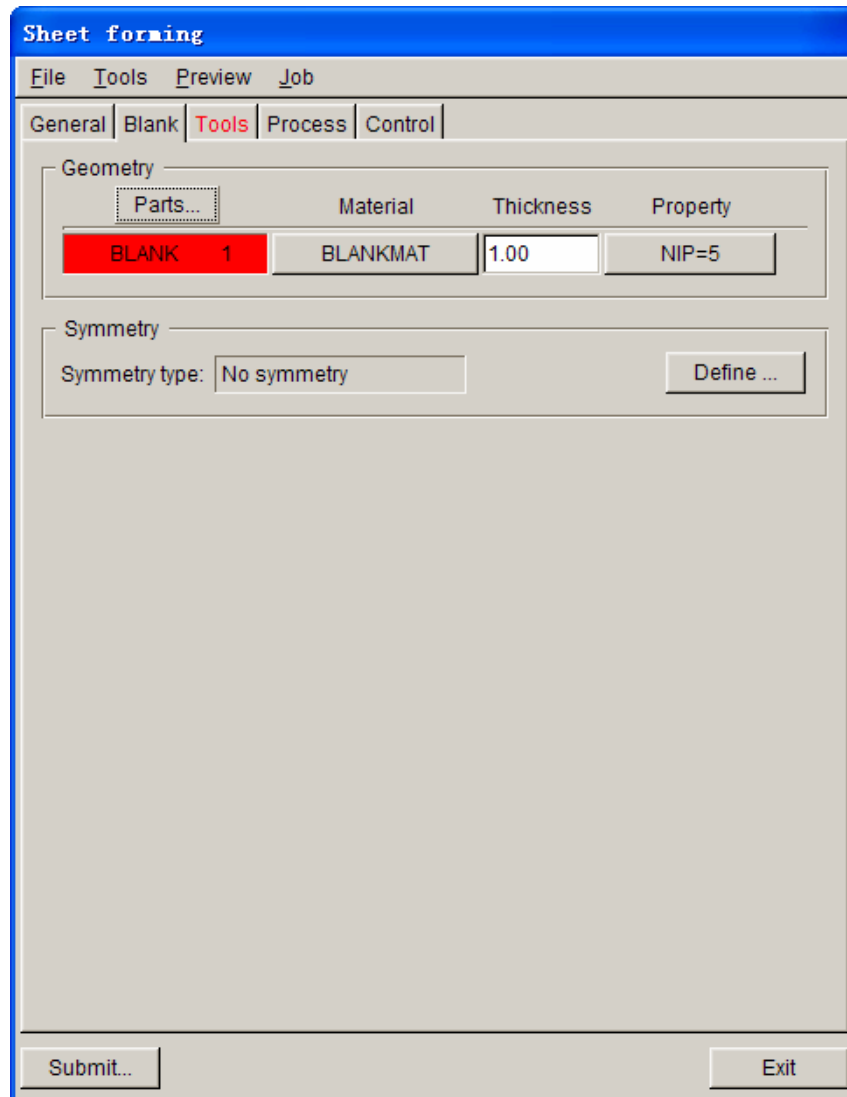

Figure 72: Blank definition page
6. Exit the dialog box to return to the **Blank** definition page. Now, the tag color of the **Blank** is changed red into black, indicating the blank part is assigned. See Figure 72.